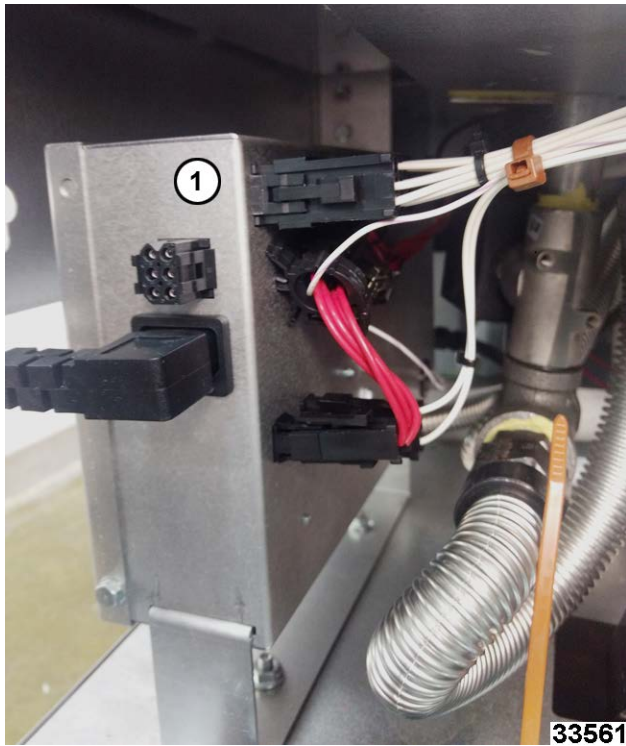

Fig. 19
- Unplug power cord to power supply box (1, Fig. 19). Note and disconnect wire connectors.